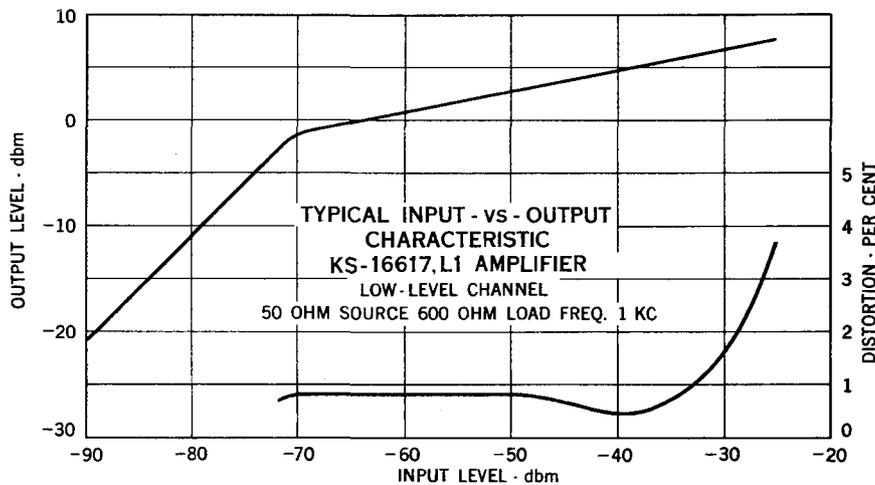

Fig. 5 - Low-Level Channel — Input vs. Output and Distortion
6.03 Fig. 5 shows input—output characteristics of the low-level channel. The figure also